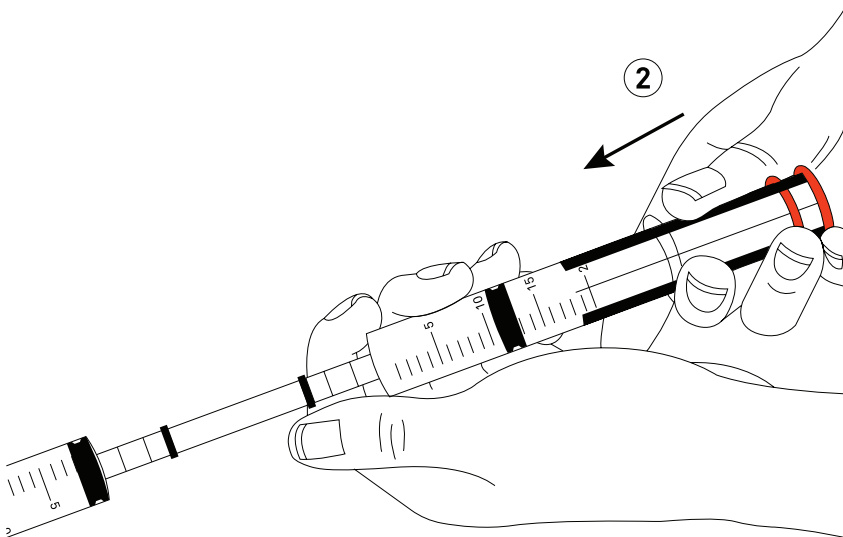

Figure 23 Release the plunger
18. Hold the plunger and syringe, press in the plunger stoppers and let the plunger slowly move forward (Figure 23).